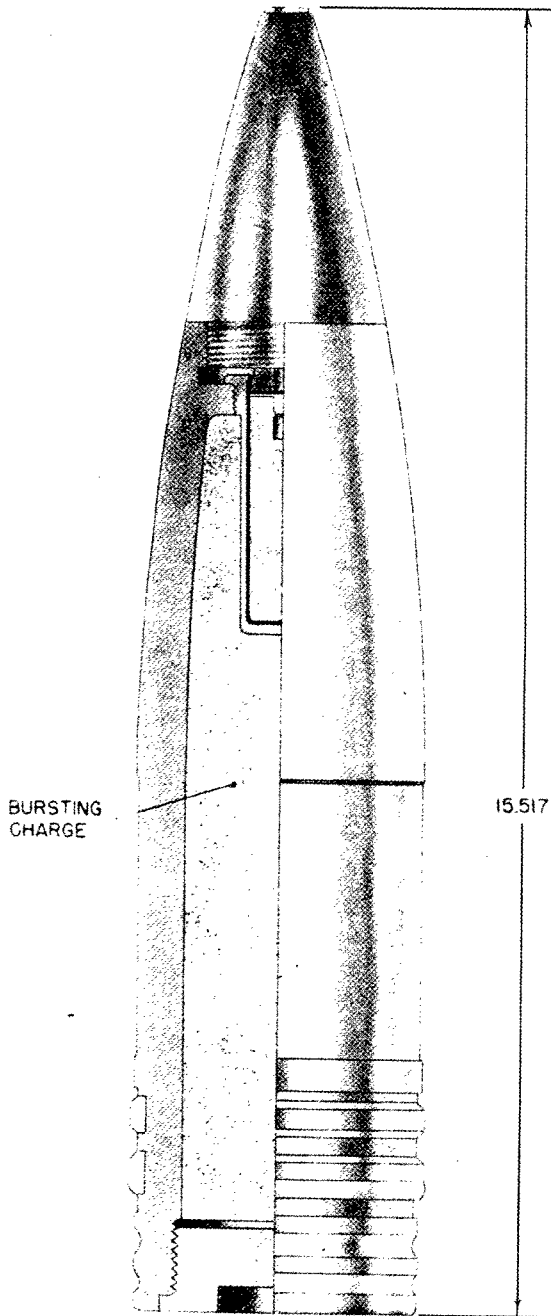

Figure 425—H. E. Projectile, Type L/4.5, 88-mm Sprgr. Patr. L/4.5 (Kz.)
**GERMAN NOMENCLATURE:** Sprgr. Patr. L/4.5 (Kz) (Sprenggranate Patrone Ladung/4.5 [Kopfzunder]). (See fig. 425.)